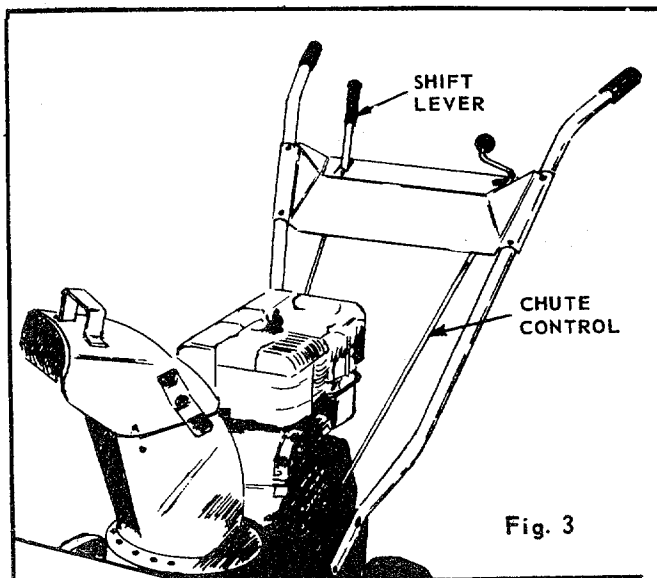

Fig. 3
To stop the snow thrower move the shift lever into neutral (N). Move this control only when the engine is operating. (See Figure 3)
Chute Controls. Release the lock and turn the crank to rotate the chute. Loosen the wing nut to adjust the deflector. (See Figure 3)